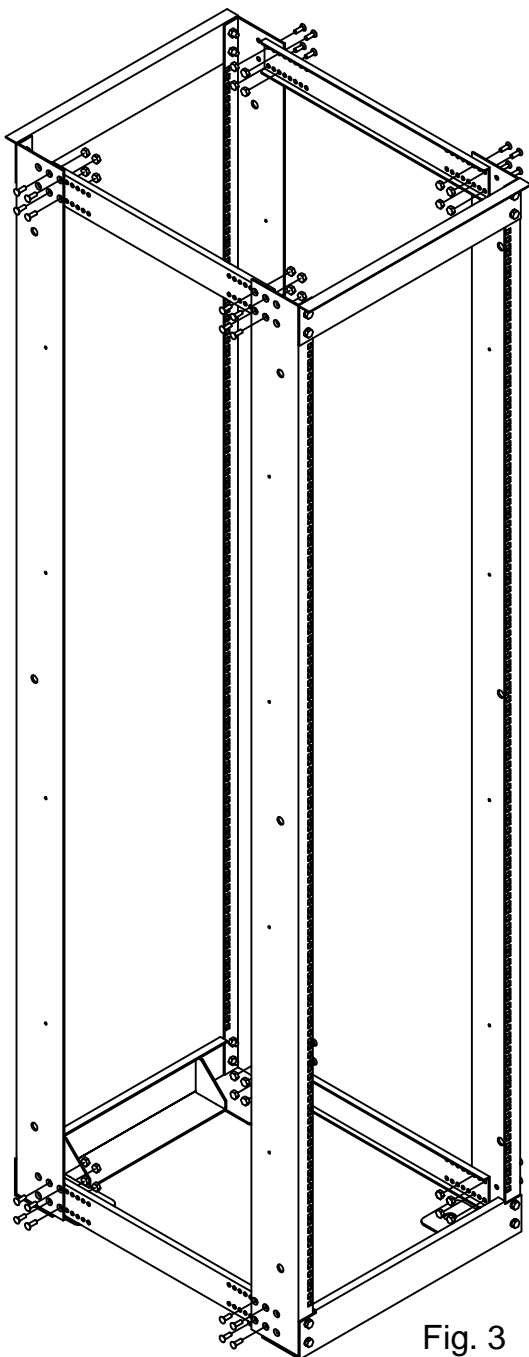

Fig. 3
4. Attach Short Adjustable Channel (3) and Frame Assembly to desired depth using Screws (E5) and Nuts (E6). See Fig. 3 and 3A
5. To adjust depth of Dual Rack, remove Screws (E5), Nuts (E6), and Short Channel (3). Reinstall at desired depth. See Fig. 3 and 3A